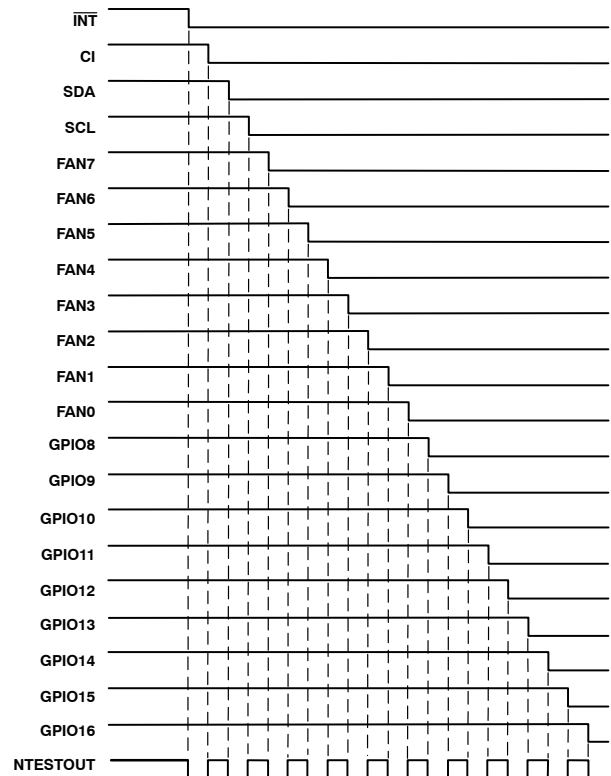

Figure 57. NAND Tree Test Taking Inputs Low in Turn
2. Start with all inputs high and take them low in turn, starting with the input furthest from NTEST_OUT ($\overline{\text{INT}}$) and working down the tree to the input nearest to NTEST_OUT ($\text{GPIO16}/\overline{\text{THERM}}$). This should give a similar output pattern to Figure 57.